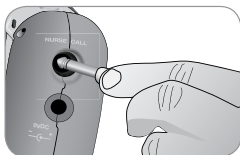

Fig. 10
1. Insert one end of cable into "Nurse Call" jack on left side of alarm (Fig. 10).